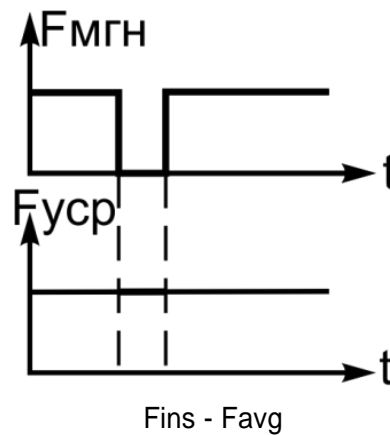

Figure 5 – Error code generation
**⚠ WARNING!** If there is an error in a measurement of the instantaneous frequency, then formation of fixed error code occurs, the current average frequency value  $F_{avg}$  remains unchanged, and an erroneous value is discarded (Fig.5).